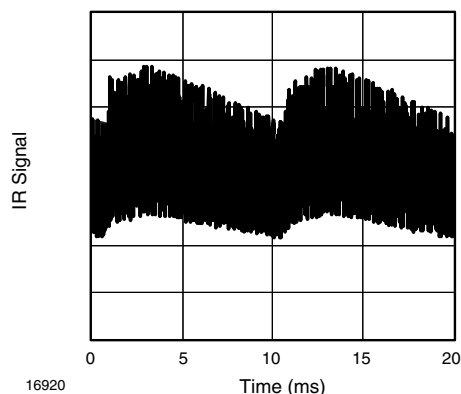
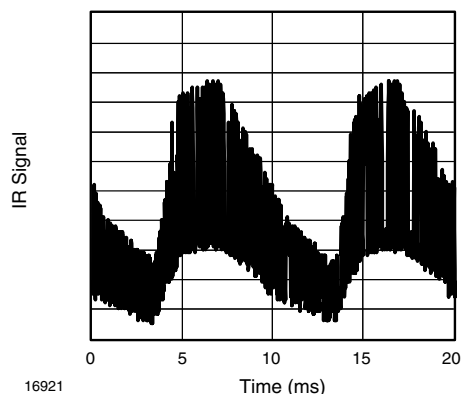

Fig. 14 - IR Disturbance from Fluorescent Lamp with Low Modulation
Fig. 15 - IR Disturbance from Fluorescent Lamp with High Modulation
- Strongly or weakly modulated patterns from fluorescent lamps with electronic ballasts (see Fig. 14 or Fig. 15).